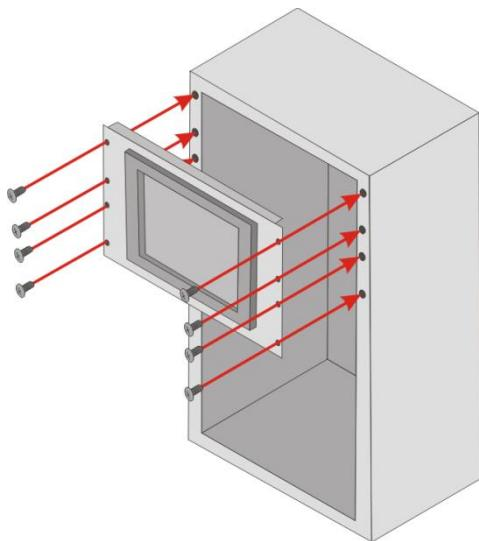

Figure 3-17: Install into a Rack/Cabinet
Step 6: Slide the PPC2-CW123/133-EHL with the attached rack/cabinet bracket into a rack or cabinet (**Figure 3-17**).